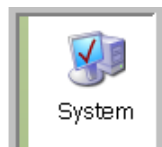

FIG. 214
2. Click on the System Icon (FIG. 214).
3. Click on the System Icon (FIG. 214).